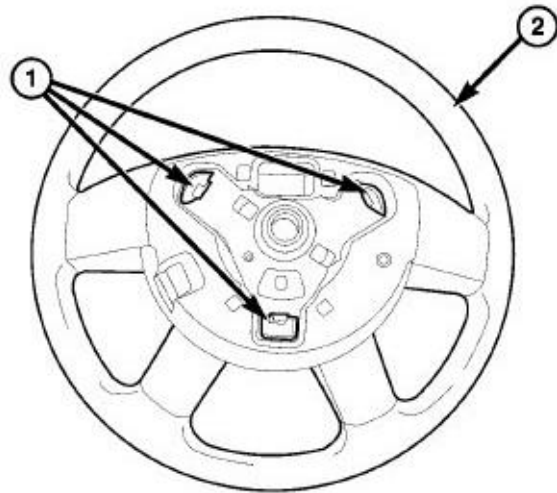

Figure 1 – DAB Retainer Locations
7. There are three DAB retainer access holes (1) on the instrument panel side of the hub of the steering wheel (2), located at the two o'clock, six o'clock and ten o'clock positions. The steering wheel must be rotated to bring each of these access holes up to the twelve o'clock position of the steering column one at a time for removal access (Figure 1).